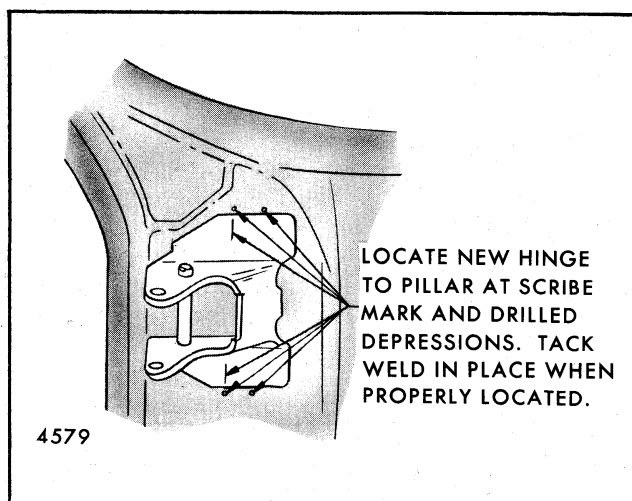

Fig. 5-80-Body Side Hinge Strap Installation - "X" Styles
2. Locate replacement hinge to scribe marks and drill depressions identifying 1-3/4" dimension (Fig. 5-80). Tack in place with arc weld at upper and lower hinge tabs.